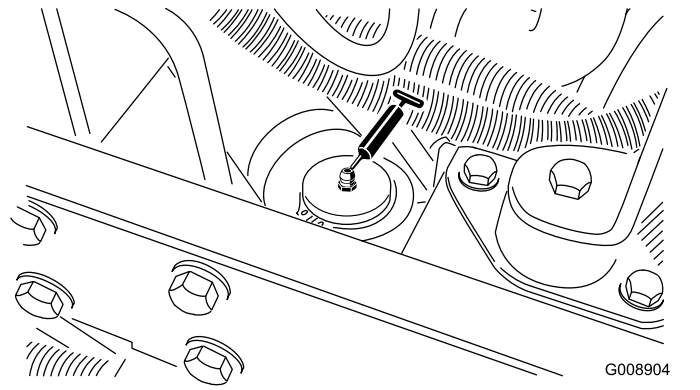

Figure 69
- Steering cylinder (Figure 69).